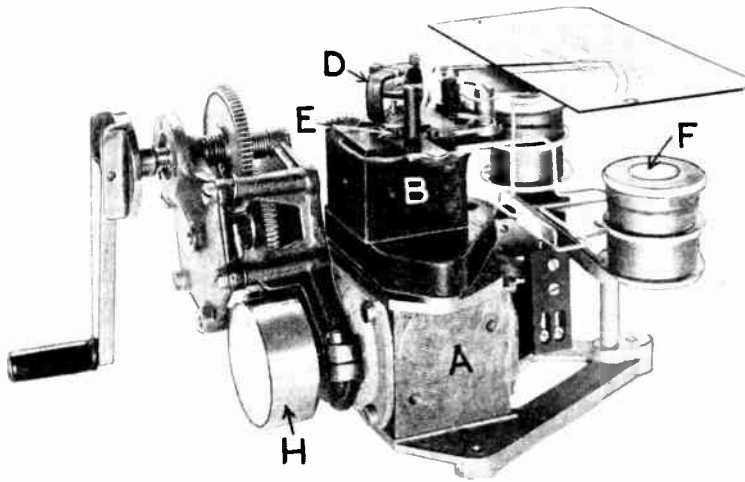
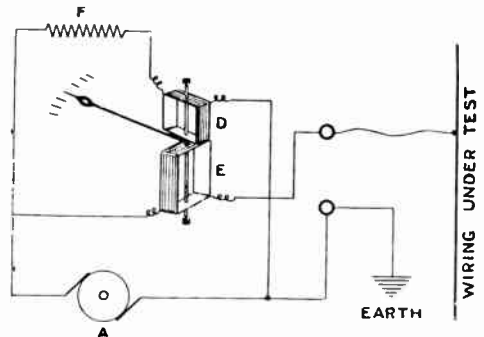
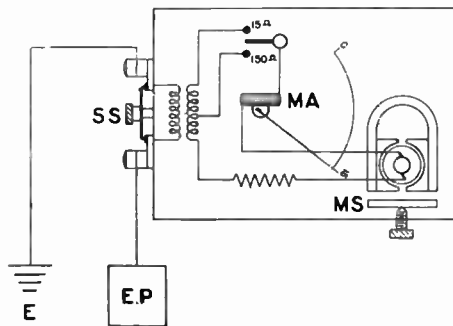

Fig. 14.—WORKING PARTS OF A MAGNETO OHMMETER (METROHM) WITH MAGNETS REMOVED.
Fig. 15.—CONNECTION DIAGRAM OF INSULATION TESTING OHMMETER.
Fig. 18.—THE "METROHM" DIRECT READING EARTH PLATE TESTER.
The ohmmeter for the measurement of insulation or resistance is made in many forms, known by various trade names. On page 167 is given a diagram illustrating the general principle of an insulation testing ohmmeter, sometimes spoken of as a "Megger," although, strictly, this name, coined by Mr. Sydney Evershed many years ago, applies to his particular form only. Another pattern is shown in use in Fig. 2 on page 168. Fig. 14 shows the essential parts of this instrument, and Fig. 15 the connections.
Ohmmeters are also available for the workshop testing of resistances, both high and low, and their use is very much easier and quicker than that of the Wheatstone bridge which was at one time almost the only method available. Fig. 17 shows a number of similar coils having their resistance measured as a routine test by a workshop "Metrohm," a 4-volt accumulator being used as a source of current in place of the generator shown in Figs. 14 and 15.
The letters refer to the same parts as in Fig. 14.
arrester earth by means of a "Metrolm" earth plate tester. This instrument (see Fig. 18) consists of a hand-driven magneto-generator provided with a slipping clutch (see 11, Fig. 14), so as to give a constant voltage, connected in series with a self-contained milliammeter (MA). The generator and milliammeter are connected in series with the earth plate (EP) and a good earth (E), such as a water main. The instrument is scaled so as to read the earth plate resistance directly in